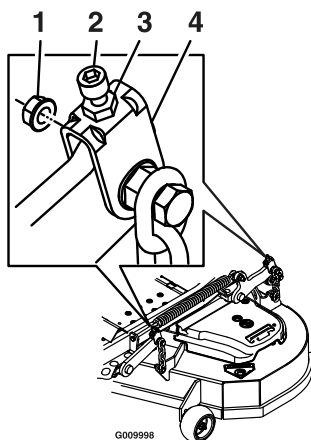

Figure 29
10. Loosen the whizlock nut on the side of the yoke and the jam nut on top. Fine tune the screw adjuster by turning it to get 3 inch (7.6 mm) height (see Figure 29).